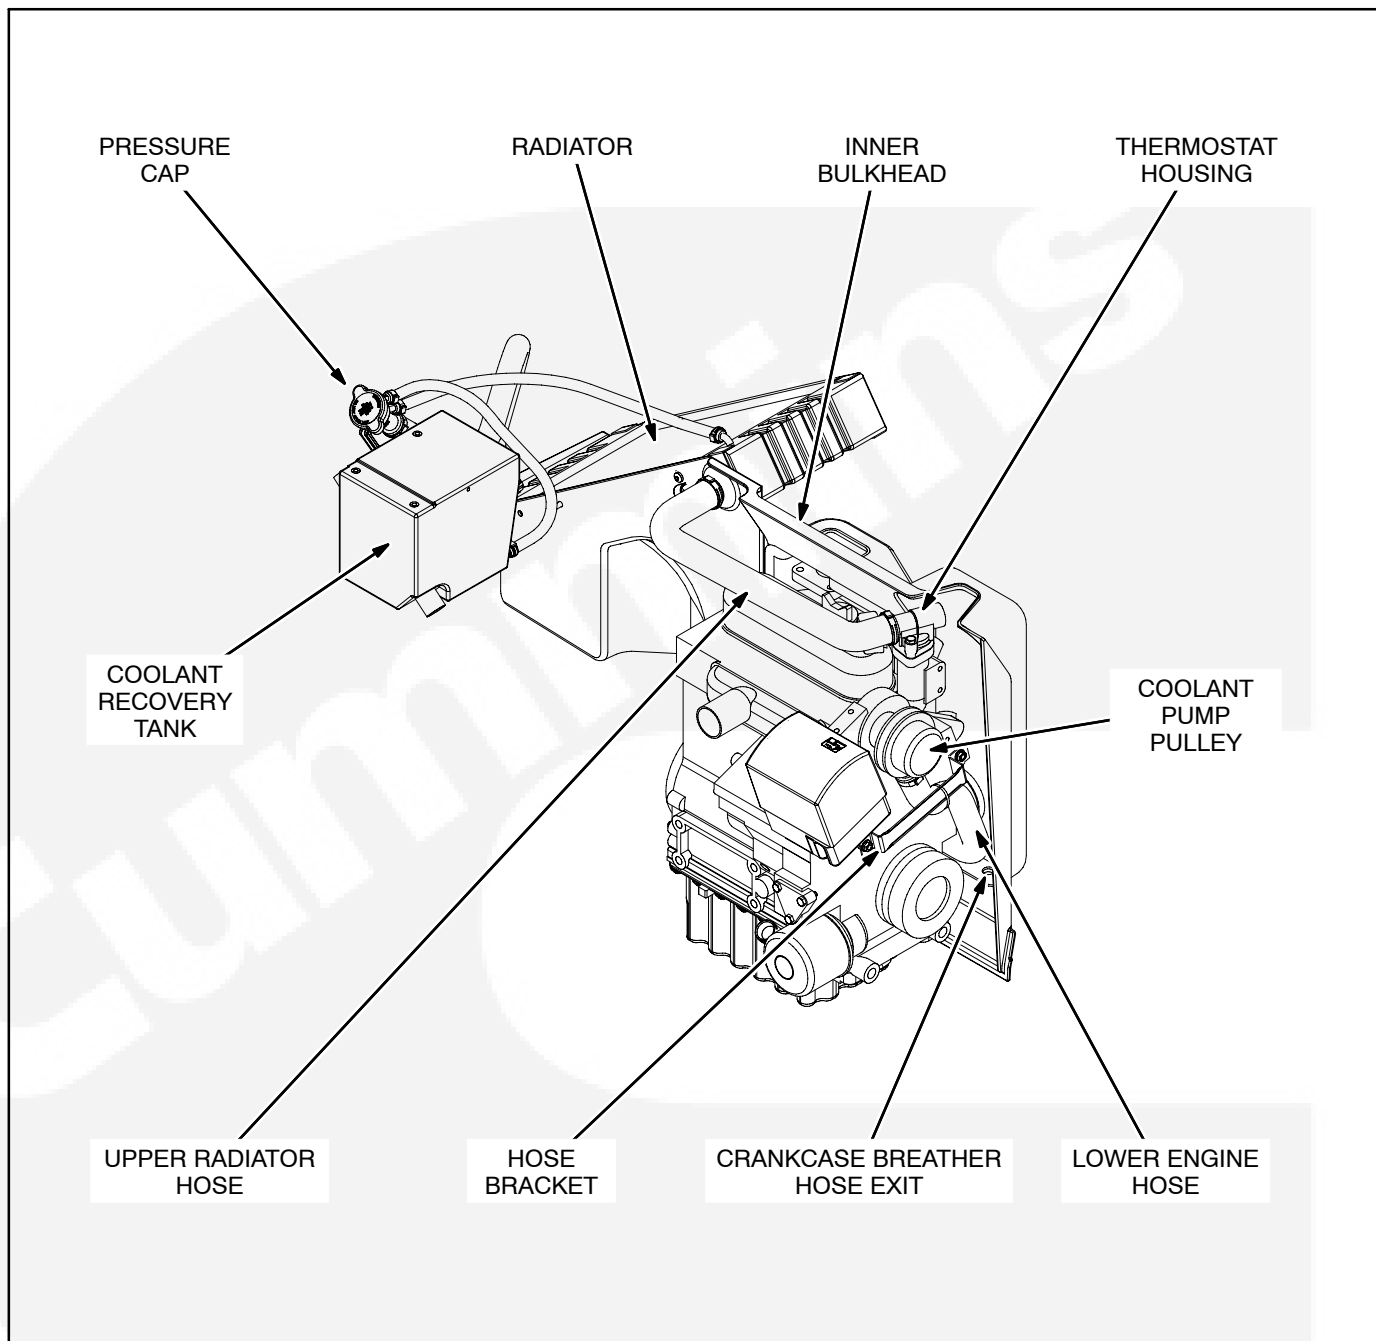
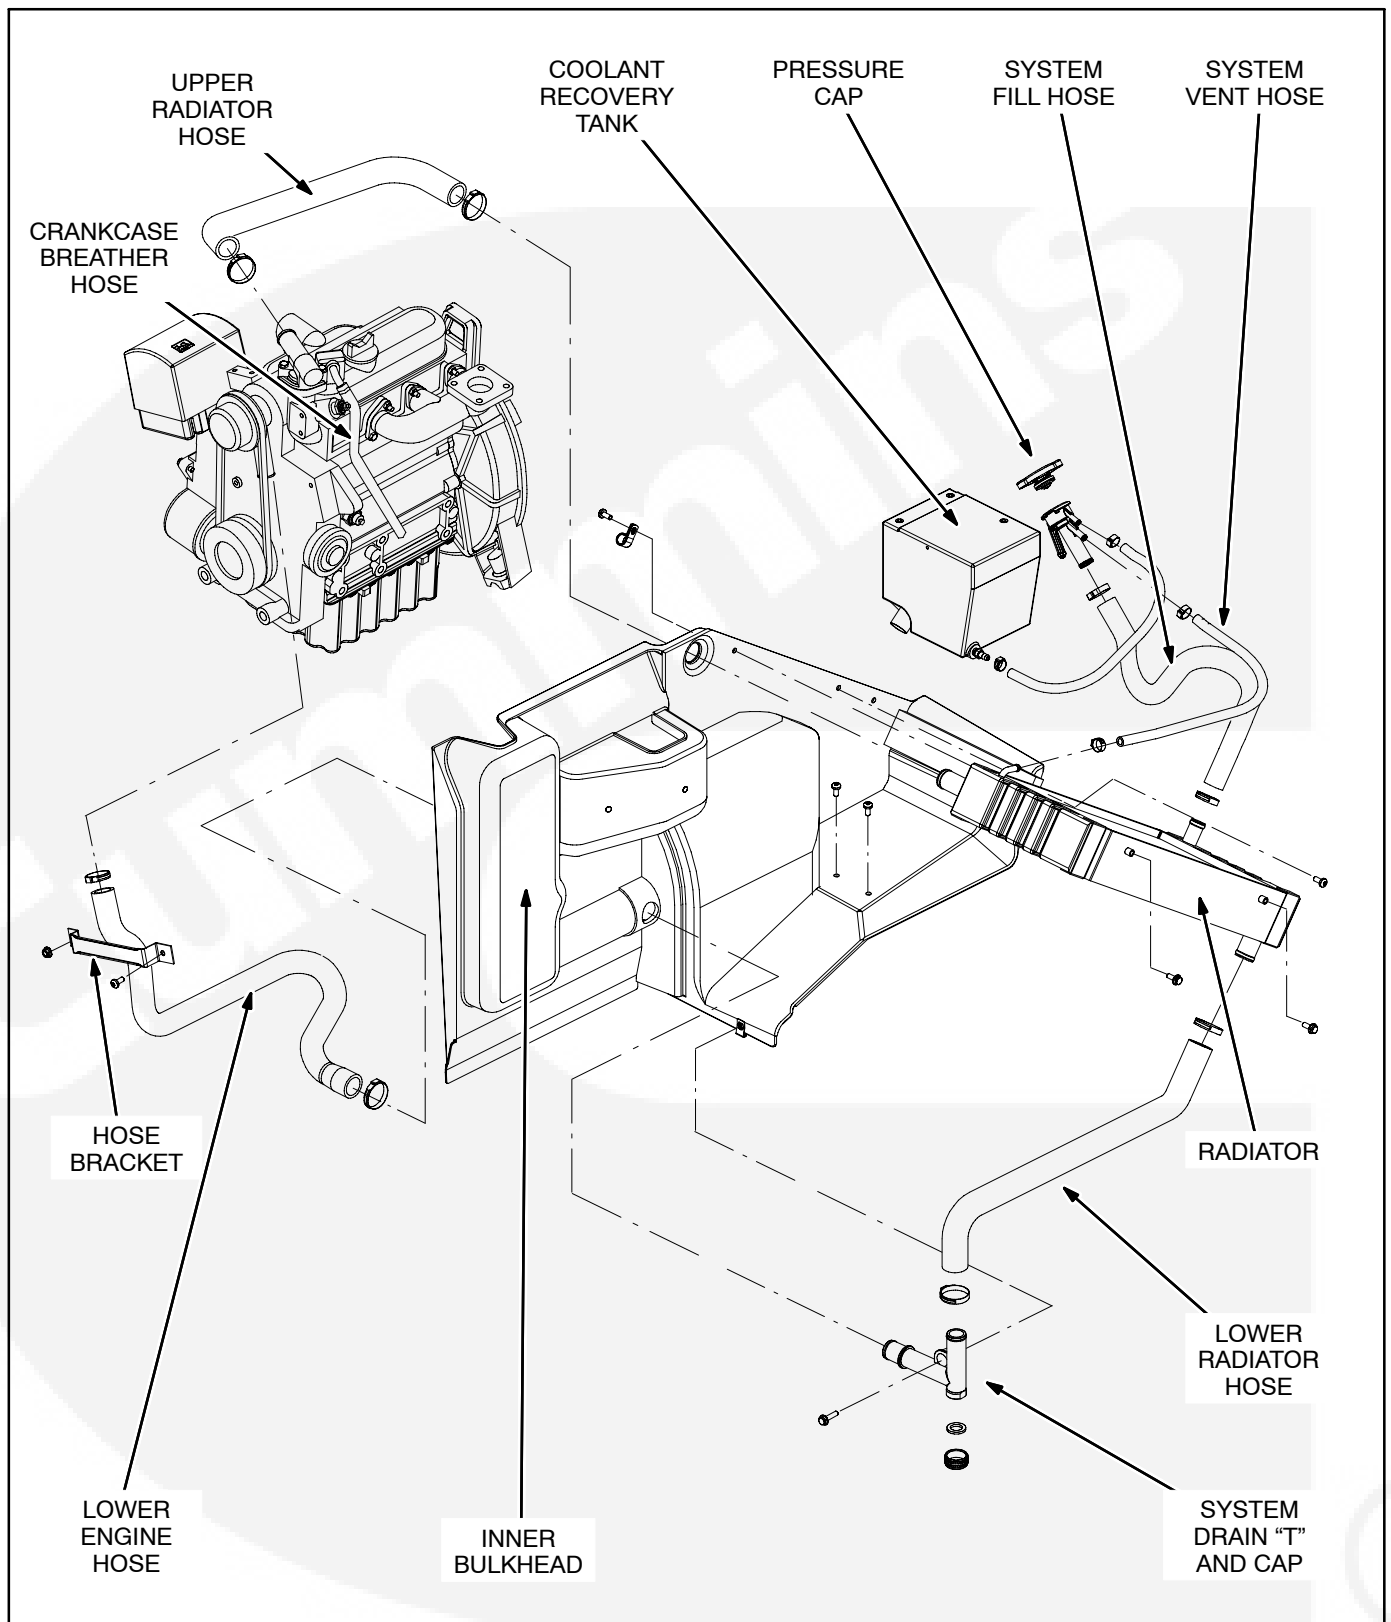

FIGURE 9-1. ENGINE COOLING SYSTEM (I OF 2)
FIGURE 9-2. ENGINE COOLING SYSTEM (2 OF 2)
The genset has a liquid cooled engine. A centrifugal blower (Figure 11-2) is mounted on the end of the generator (PMA) rotor to move air for cooling the genset and radiator. The blower pulls air in from an opening in the bottom of the genset to pressurize the engine compartment. Air flows through the radiator from the top side into the muffler compartment and then out the bottom. See Figures 9-1 and 9-2.
4. Remove the screw which secures the system drain "T" (Figure 9-2).
Installation is the reverse of removal. If the inner bulkhead was removed, make sure the end of the crankcase breather hose (Figure 9-2) is pushed back through the exit hole in the bulkhead (Figure 9-1).